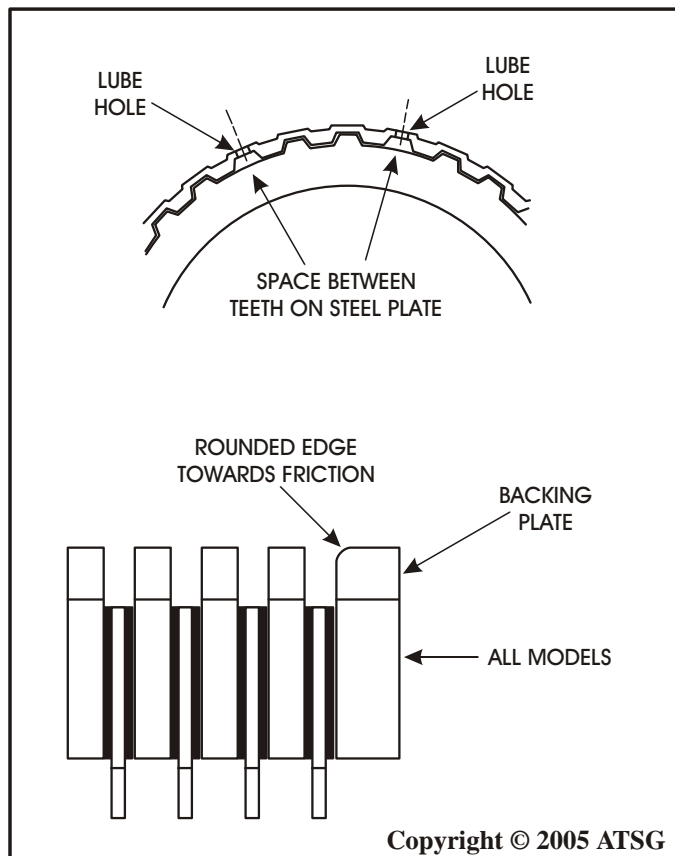

Figure 114
Note: When installing the steel plates, align them so that the places with no teeth will be aligned with the lube holes in the housing, as shown in Figure 114.
13. Install the underdrive clutch backing plate, as shown in Figure 114 and 115, with the rounded edge towards the friction.